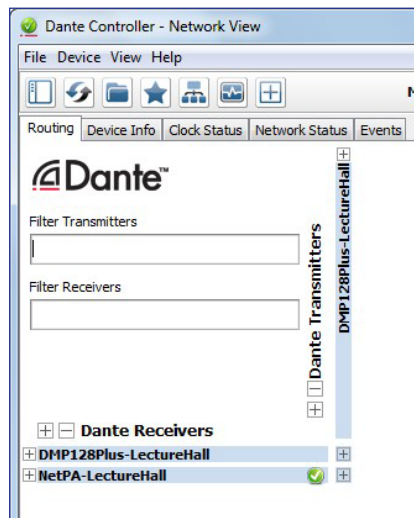

Figure 23. Network View Screen
1. From the start menu, select **All Programs > Audinate > Dante Controller > Dante Controller**. The Dante Controller - Network View screen opens (see figure 23).